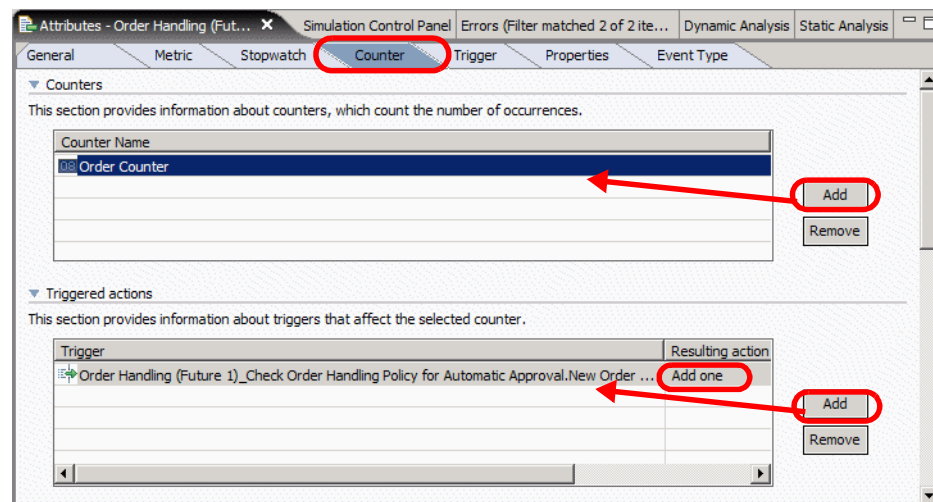

Figure 8-17 Create a counter (Order Counter)
- ▶ Select the *Counter* tab (Figure 8-17).